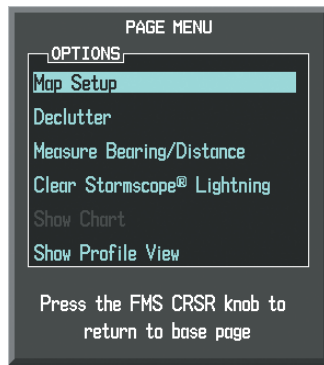

Figure 6-76 Navigation Map Page Menu
- 3) With 'Map Setup' highlighted, press the **ENT** Key (Figure 6-76).